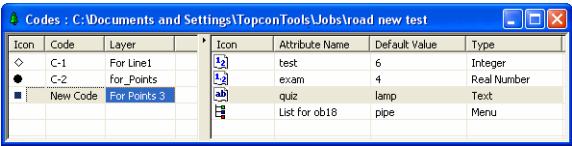

Figure 5-56. Codes View
3. Click **Apply** to set data without closing; click **OK** to set data and close the dialog box. The right panel of the *Codes* view displays the list of the created attributes for the code selected in the left panel (Figure 5-56).